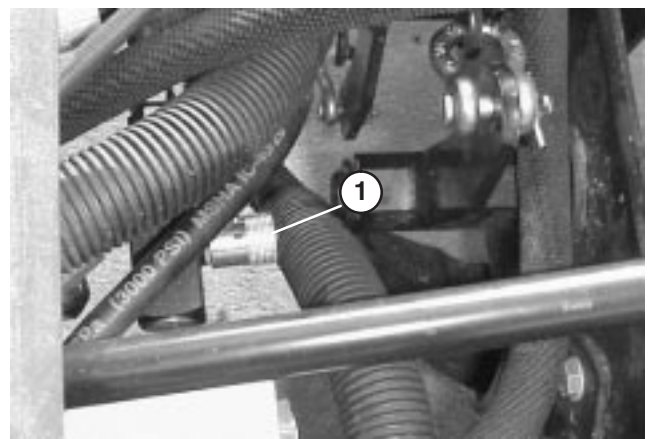

Figure 65
1. Locate valve on flow divider (under foot rest) (Fig. 65).